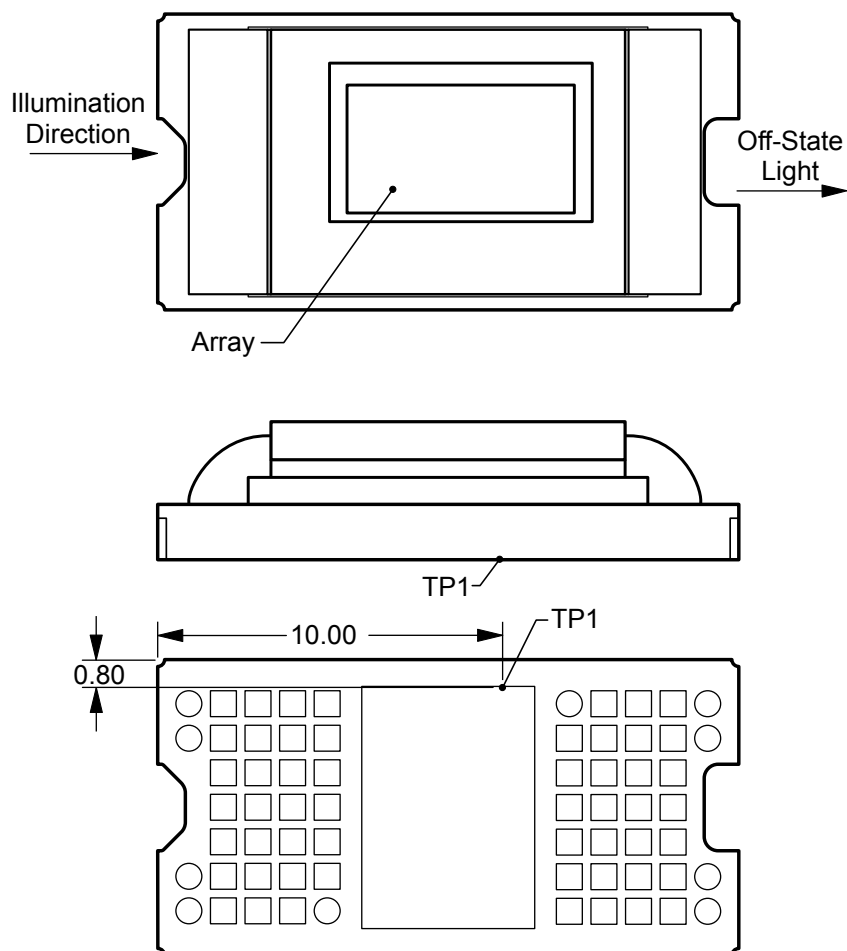

Figure 7-8. Thermocouple Location
Relationship between array temperature and the reference ceramic temperature (thermocouple location TP1 in Figure 7-8) is provided by the following equations.
- T_{CERAMIC} = measured ceramic temperature (TP1 location in Figure 7-8) (°C)